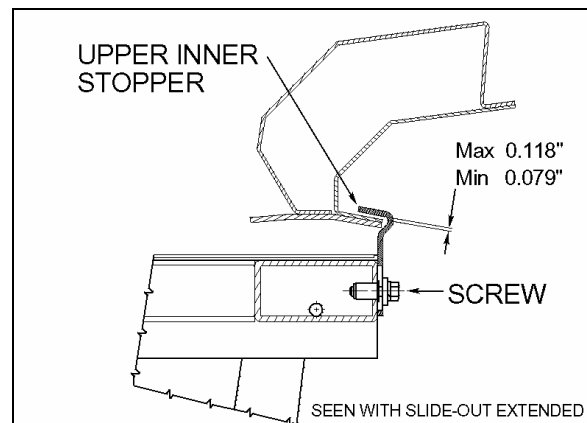

FIGURE 4: UPPER INNER STOPPERS ADJUSTMENT
2. Adjust the upper inner stoppers according to FIGURE 4 with the seal deflated. When inflating, the seal presses the roof structure upward and at that moment, the upper inner